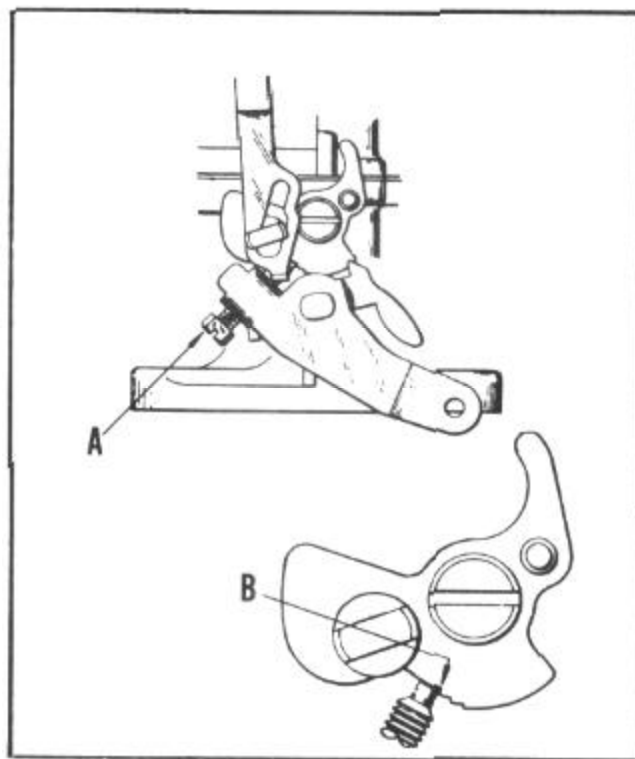

FIGURE 36
1. With fast idle cam in normal idle position, tighten throttle lever adjusting screw (A), Figure 36, until it just seats against the cam.
2. Hold throttle lever closed and pull cam back until low step is against but not on set screw (B), Figure 36.